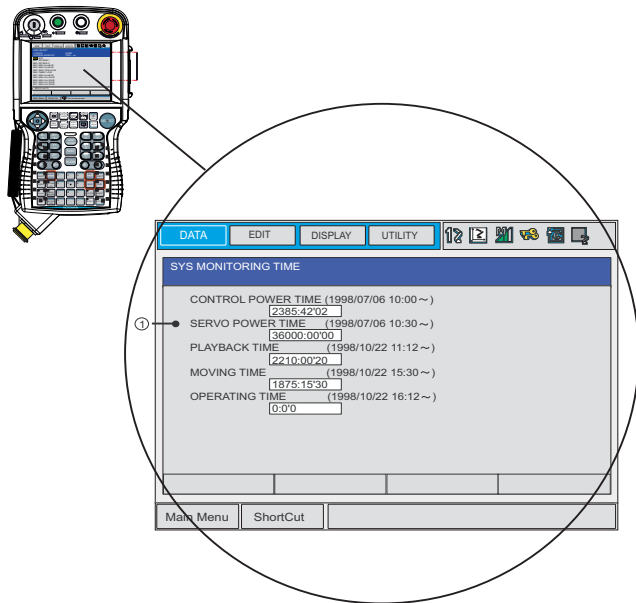

Fig. 9-1: SERVO power time
- ▶ The inspection intervals depend on the SERVO power time (see point 1 in Fig. 9-1: "SERVO power time").